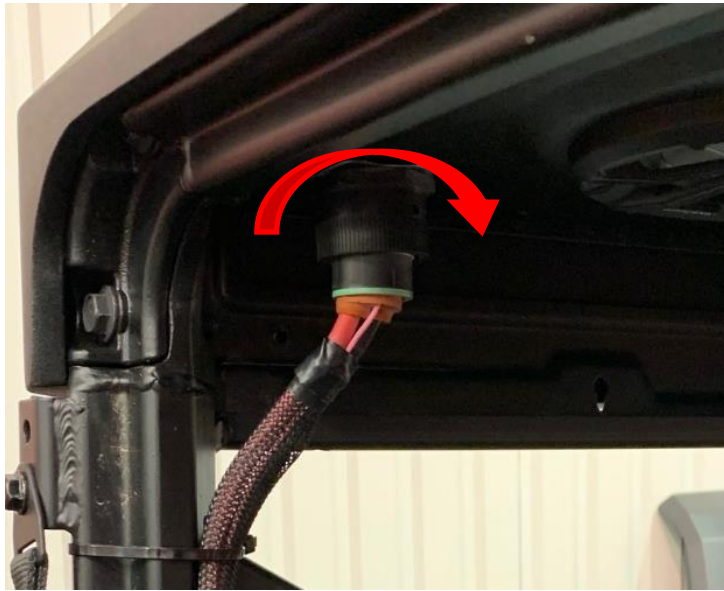

Figure 14: Align connector terminals and rotate 1/4 turn.
13. Line up the terminals on the chassis harness connector with the bulk head connector located on the back driver's side corner of the top. Plug the connector in and rotate the ¼ turn collar to lock the connector together. See Figure 14.